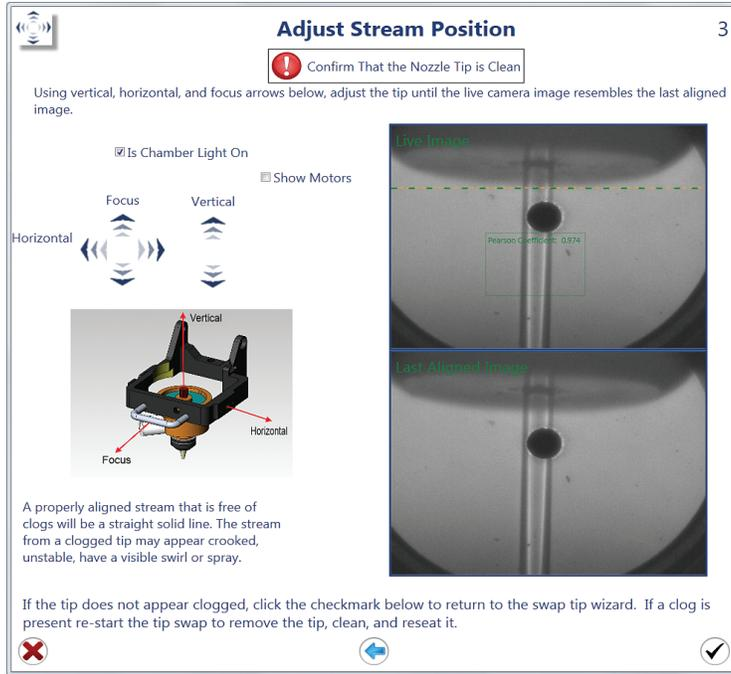

Fig. 123. Adjust Stream Position window.
35. Using the Vertical, Horizontal, and Focus arrows, adjust the nozzle tip and stream until it matches the last aligned image (Figure 123).
37. If the nozzle tip and stream are aligned and there are no clogs, click the checkmark to proceed (Figure 123).